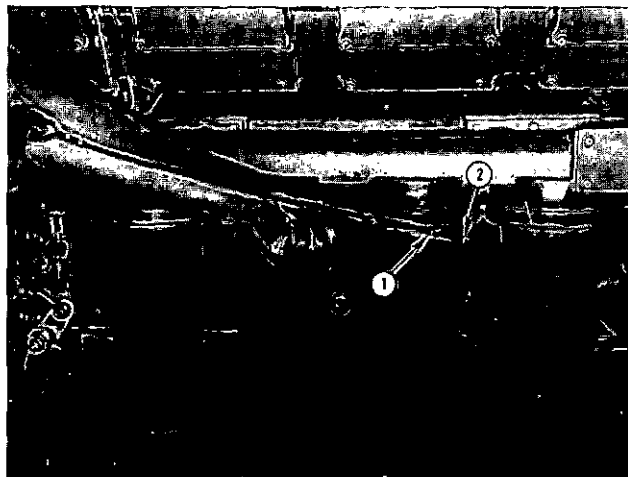

Fig. 2-1, (K21901). Checking engine oil level
1. Check the oil level with the dipstick oil gauge located on the engine. Fig. 2-1. For accurate readings, the oil level should not be checked for approximately 15 minutes after the engine is shut-down. Keep the dipstick with the oil pan with which it was originally shipped. Keep the oil level as near the "H" (high) mark as possible.